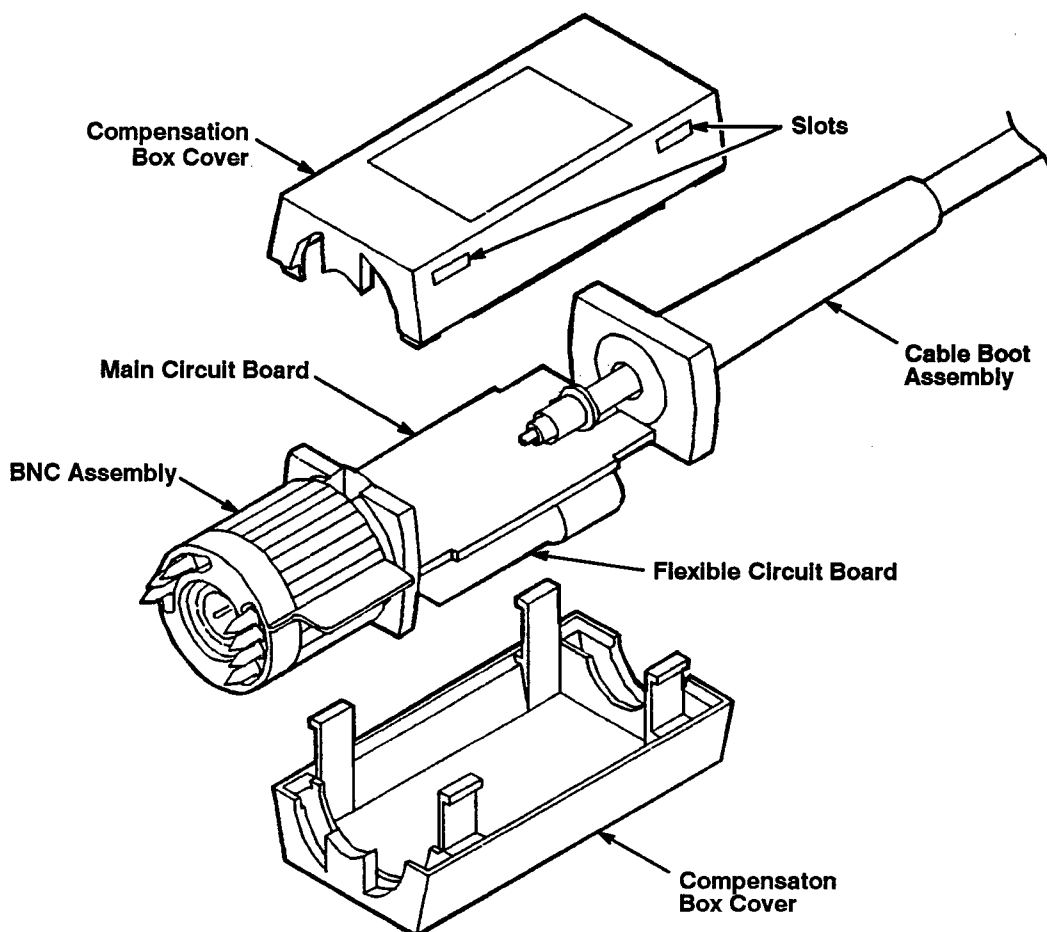

Figure 1: Compensation Box Top Cover Removal
- Step 1:** Insert the release tool into the two slots along the side and near the top of the compensation box top cover. Press firmly on both tabs while prying upward to separate the top and bottom covers. Refer to Figure 1.
- Step 2:** While holding the top and bottom covers apart, repeat step 1 on the other side of the top cover. Gently work the top cover off while holding the cable-boot and BNC assemblies firmly in the bottom cover. Refer to Figure 1 to identify the different assemblies.